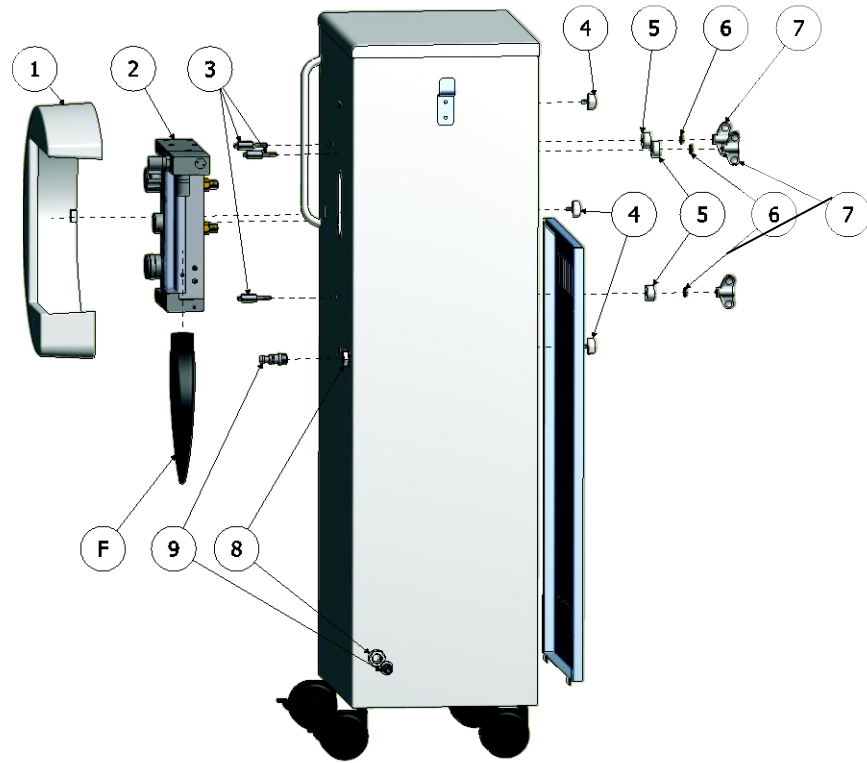

Figure 2
6.1 Installation of unit-mounted MASTER FLUX PLUS**FLOWMETER BOX INSTALLATION** (Figure 2)